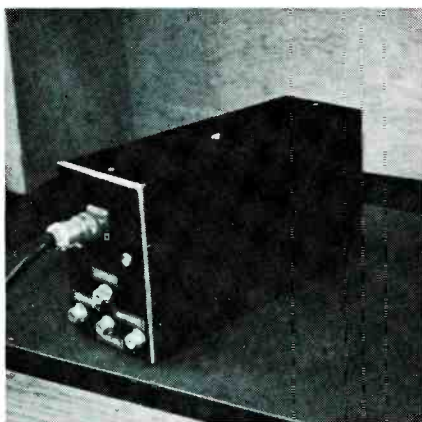

Fig. 1. Outside view of sync generator.
The synchronizing generator shown in Fig. 1 and described in the following paragraphs is constructed to provide standard signals for the United States 525-line monochrome television system. The synchronizing generator provides the following four signals to the associated television equipment: (1) horizontal driving signals, (2) vertical driving signals, (3) blanking